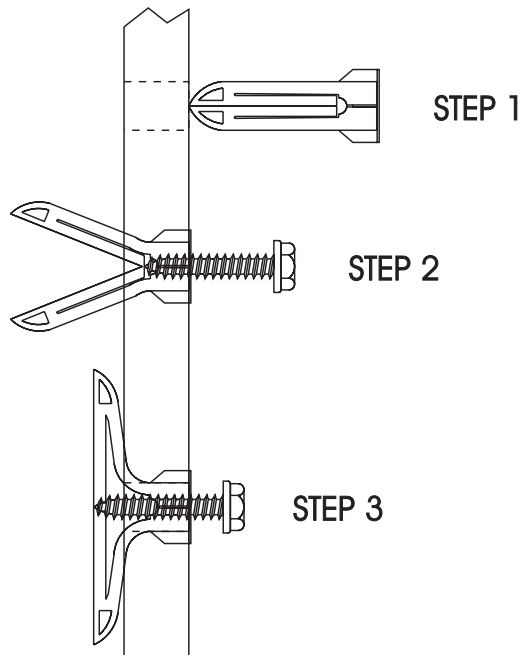

Figure 5
**Installing Wall Bracket (Figures 5 and 6)**